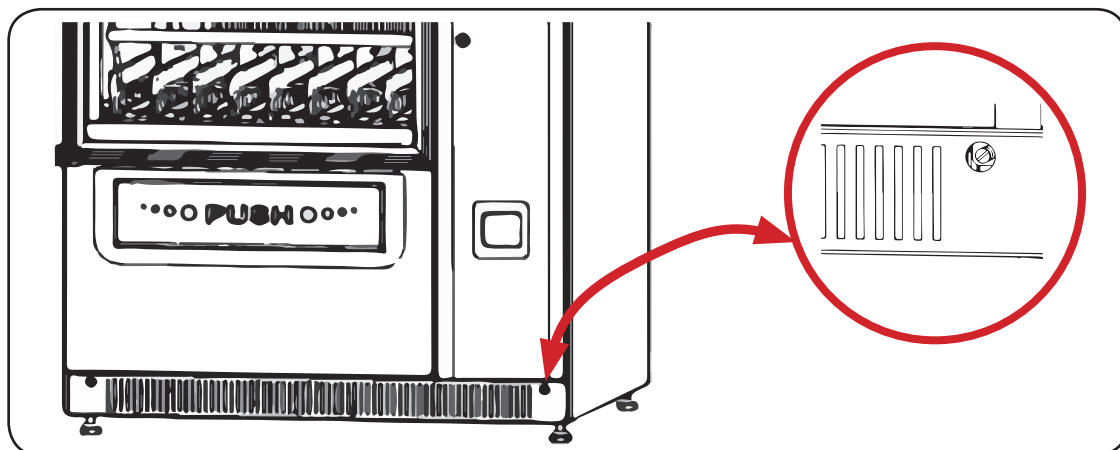

Figure 5.1- Installation of ventilation cover
- After the vending machine installation and levelling take the ventilation cover, packed for the duration of transportation into the product dispensing tray, and install it on the vending machine by using the screws from the fitting kit (fig. 5.1).